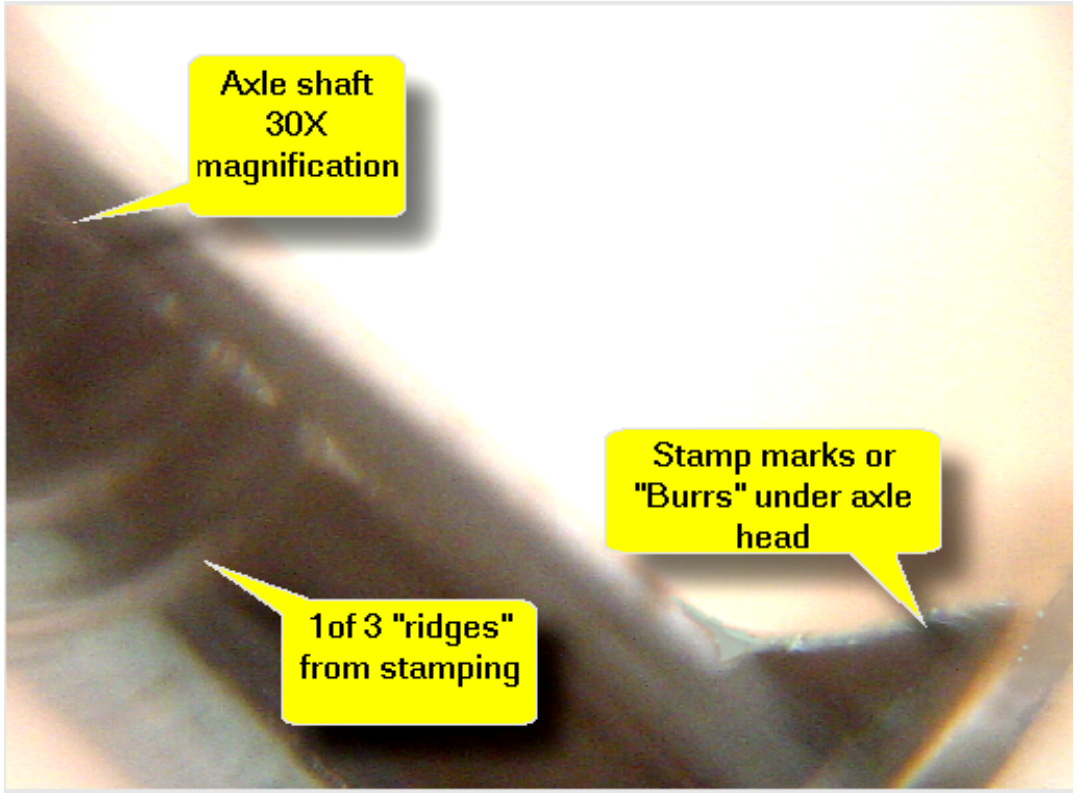

Figure 2 - Magnified view of an axle from a BSA kit showing burrs and ridges.
- Below in **Fig. 2** is a magnified view (about 30X) of an axle nail showing one of the stamp marks right under the nail head. There are two of these on opposite sides. They need to be filed down as shown in the next topic below.